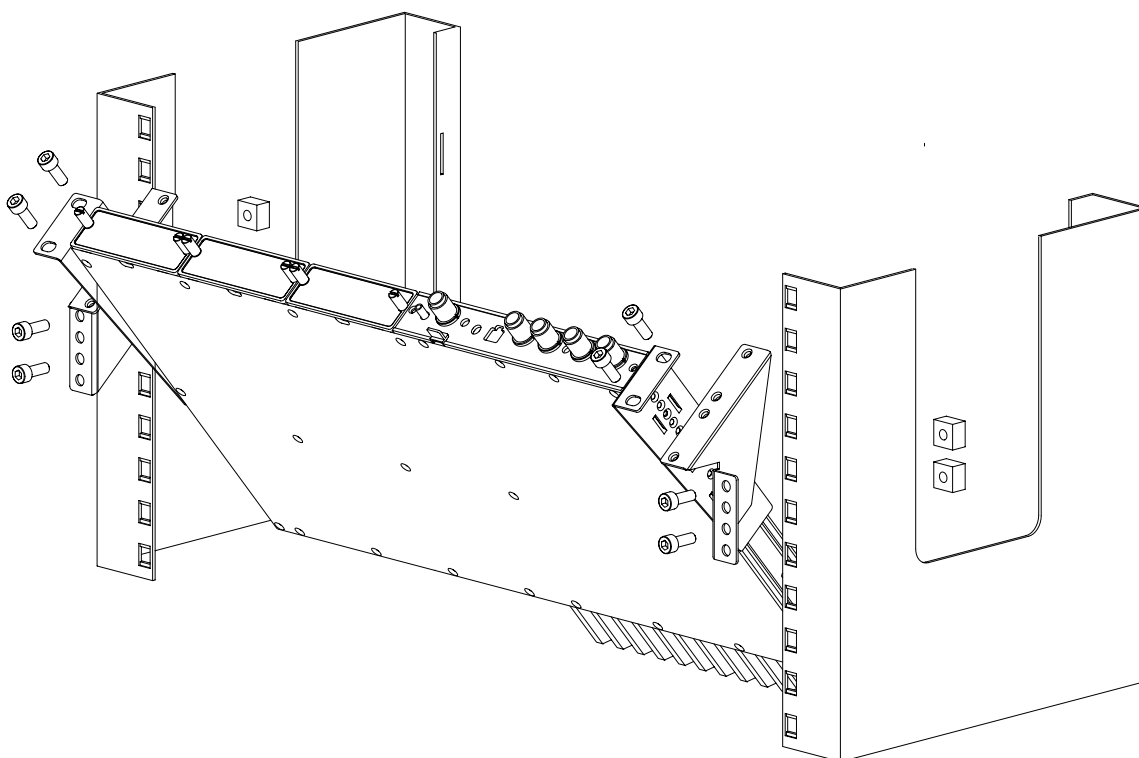

Figure 8. Installing FIU 19 4 - 12 x 2M in an ETSI rack
To install the ETSI mounting brackets, put the rack mounting nuts (4 pcs) to the rack. Fix the brackets to the rack with two screws each (see Figure 8). Tighten the screws with a 5 mm Allen key.
To install FIU 19 (E) with 4 - 12 x 2M capacity in an ETSI rack, follow the instructions in Section 4.1.1. Ignore the use of rack mounting nuts. They are not needed in this installation. Fix the unit to the rack as shown in Figure 8.
4.2.2 FIU 19 (E) with 16 x 2M capacity (1+0)